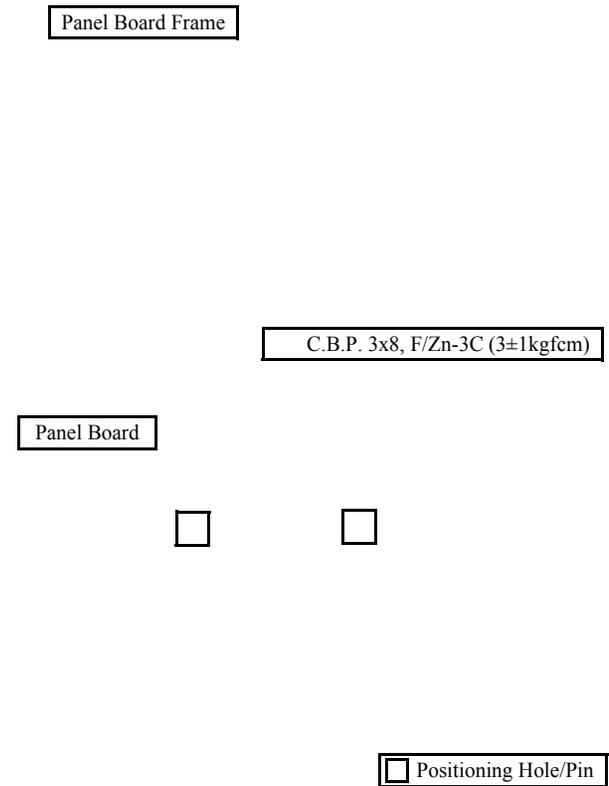

Figure 4-135. Removing the Panel Board
- When installing the Panel Board, align the positioning holes of the Panel Board with their positioning pins of the Panel Housing as shown in Figure 4-135.
- Tighten the screws in the order given in Figure 4-135.